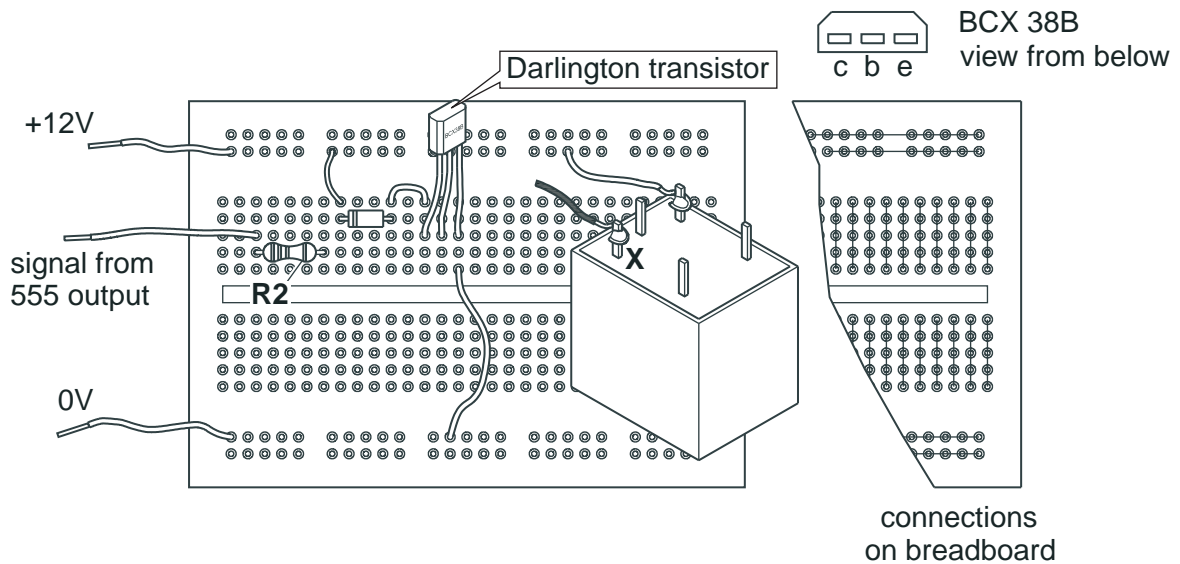

Fig. 9
- (c) Fig. 9 shows part of the output circuit being tested on a breadboard.